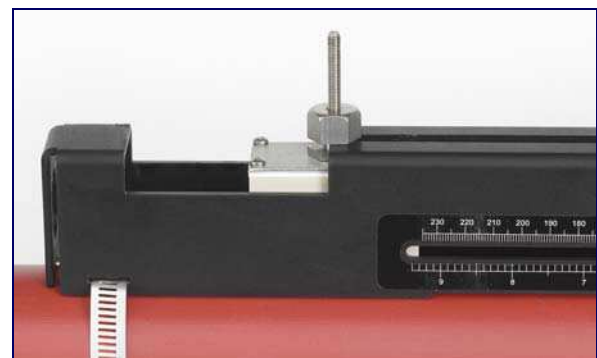

Figure 2.10
3. Thread the downstream transducer cable (blue) through the right-hand end of the guide rail and up through the rectangular opening at the top left-hand end of the guide rail, as shown in Figure 2.10.
9. Following the method used to insert the downstream transducer, carefully lower the transducer assembly through the rectangular opening until the slots in the side of the transducer clamp align with the edges on the top of the guide rail (Figure 2.10).